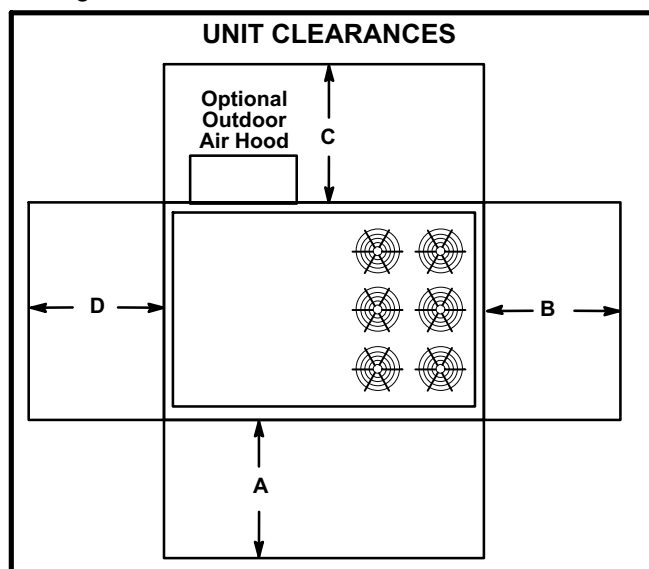

FIGURE 1
See figure 1 and table 1 for unit clearances.
- 2- Specified installation clearances must be maintained when installing units. Refer to figure 1.